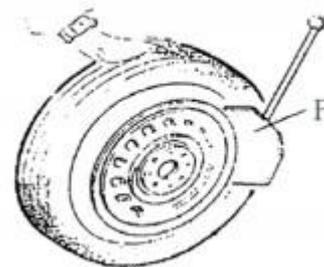

Fig 5
Ensure to exhaust the air in the tyre completely, place the tyre against the rubber buffer (S). Bring the shovel (F) against the bead about 10mm from the edge of the rim shown as **Fig 5**. Depress Bead breaker Pedal (U) to push paddle into tyre.